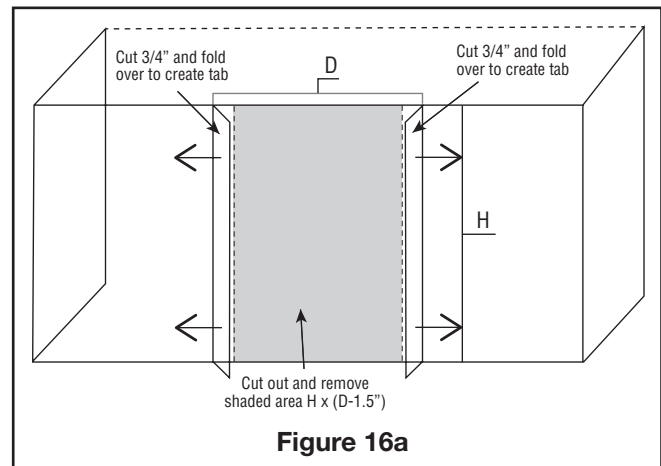

Figure 16a
2. The next step is to cut out the rough opening. Cut a rectangle in the duct with dimensions H x (D - 1.5"). Remove the sheet metal. (See figure 16A)
3. With the rough opening cut and the sheet metal removed, cut the remaining 3/4 and fold over sides to create support tabs. (See figure 16A).